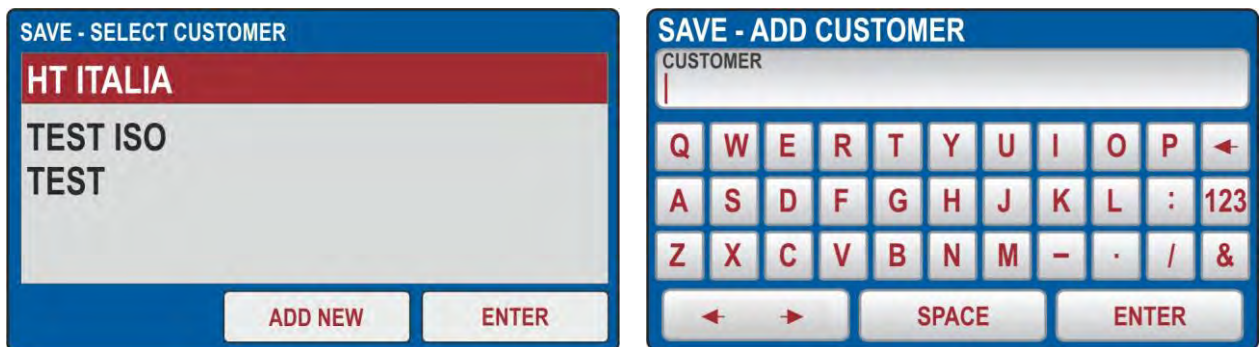

Fig. 84 : Saving Autotest menu – Modify name of LEVEL1
3. It is possible in this phase to modify **only the value associated to LEVEL1** (the values associated with LEVEL2, LEVEL3 and COMMENT cannot be changed). Touch the LEVEL1 field. The screen of Fig. 84 - left side is shown on the display